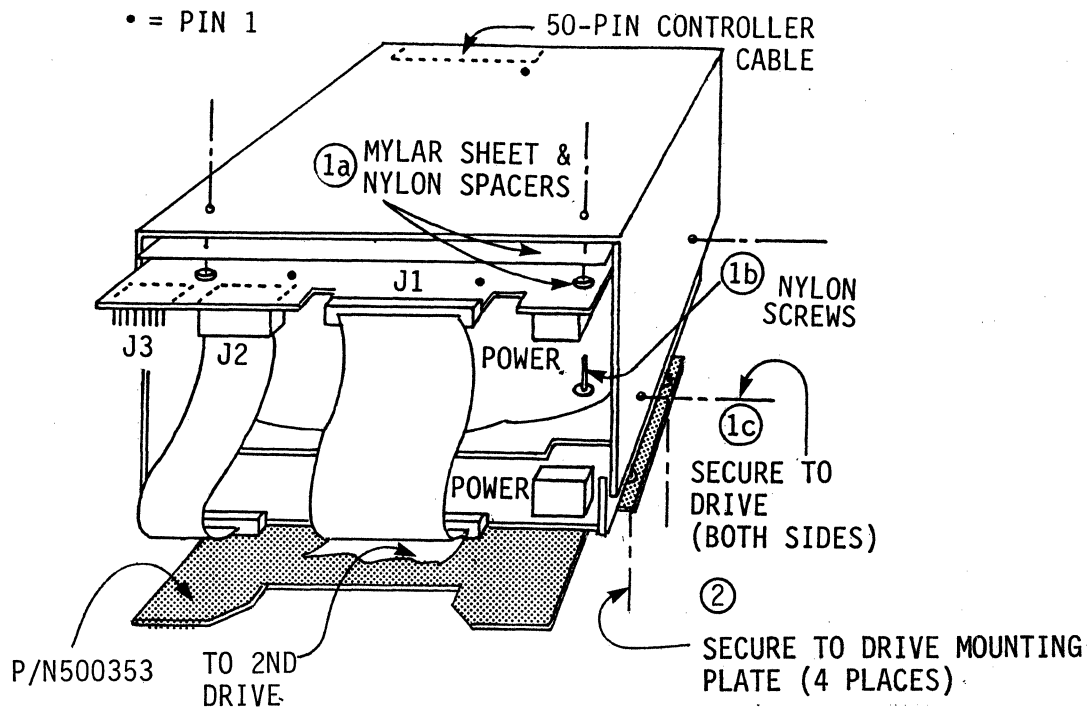

FIGURE 2-6: 5 1/4" WINCHESTER CABLING
1. The 5 1/4" RODIME or AMPEX drive, when used with Sigma's SDC-RLV12 controller, requires a formatter module that is secured to the drive mounting bracket. Using Figure 2-6 as a guide, install the formatter module.